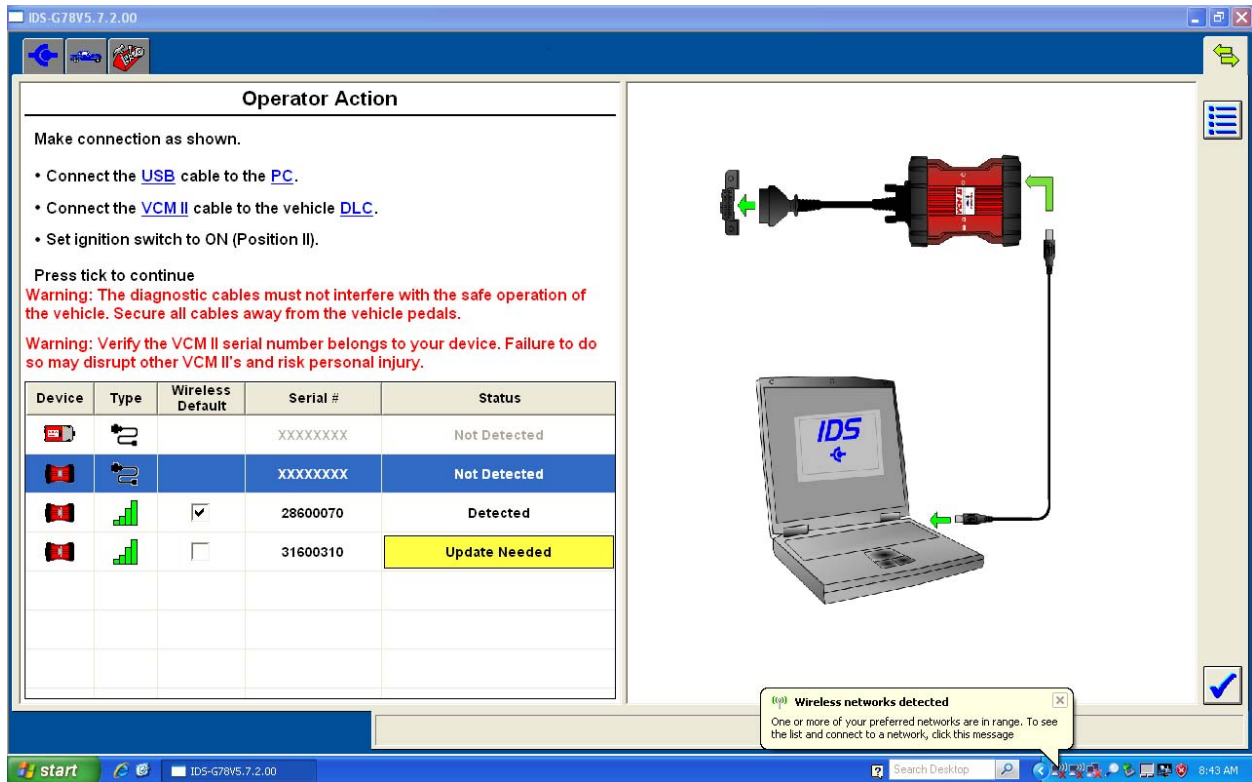

FIGURE 22: WIRELESS VEHICLE COMMUNICATIONS MODULE SELECTION
4. Select a wireless VCM II whose status is "Detected", as shown in Figure 22.